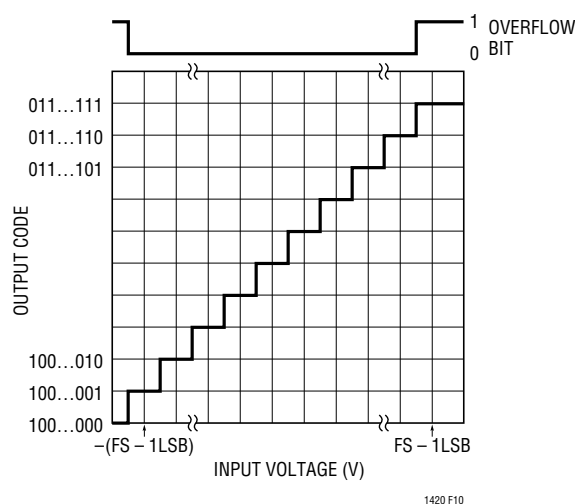

Figure 10. LTC1420 Transfer Characteristics
Figure 10 shows the ideal input/output characteristics for the LTC1420. The output data is two's complement binary for all input ranges and for both single and dual supply operation. One LSB =  $V_{REF}/4096$ . To create a straight binary output, invert the MSB (D11). The overflow bit (OF) indicates when the analog input is outside the input range of the converter. OF is high when the output code is 1000 0000 0000 or 0111 1111 1111.